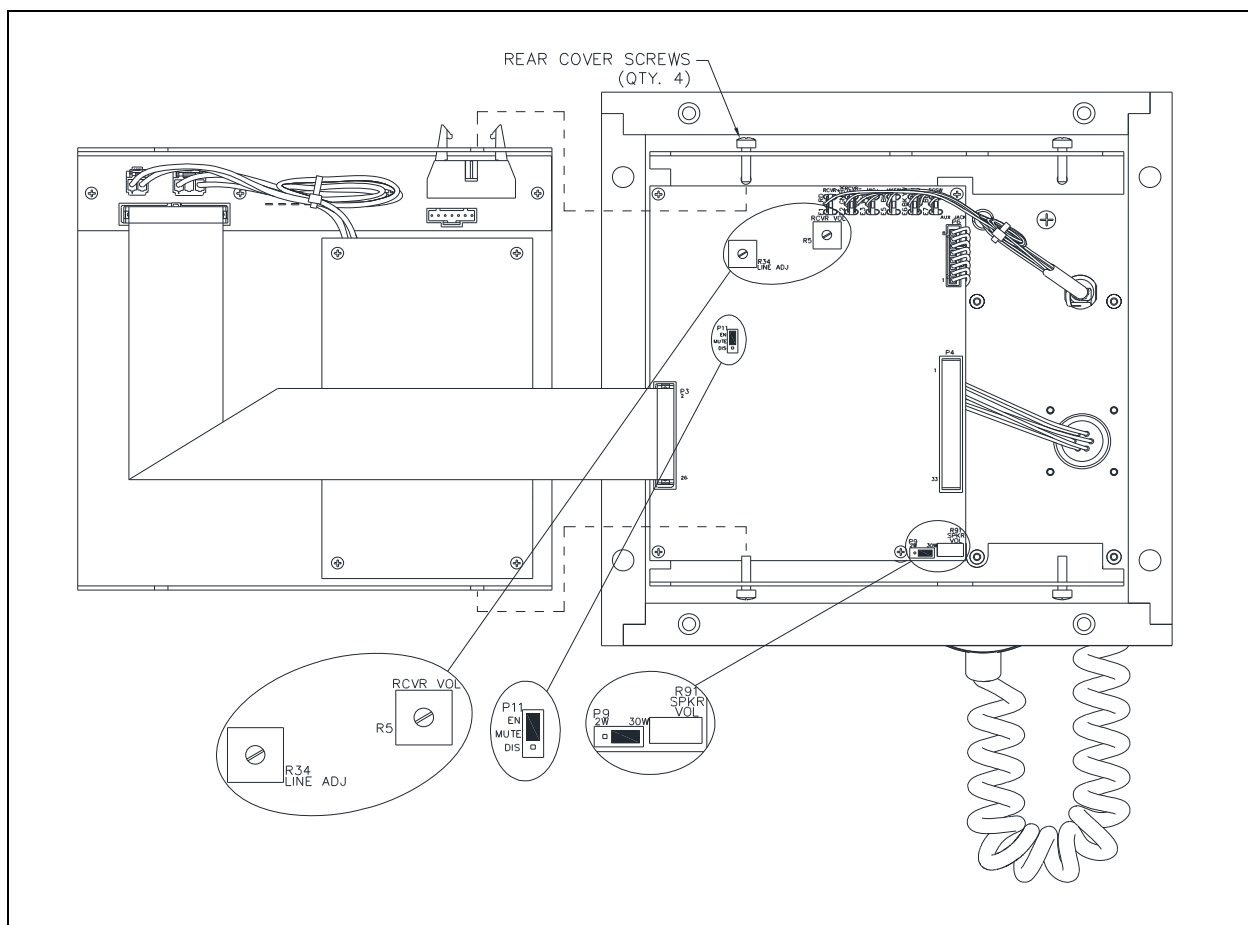

Figure 6. ICS Page/Party Amplifier—Open for Settings and Adjustments
1. Place the amplifier on a flat surface and loosen (*do not remove*) the two sets of rear cover screws, located on the top and bottom L-shaped slots (see Figure 6, Figure 10, and Figure 14)).
GAI-Tronics recommends using a No. 10440-002 Maintenance Cable (*purchased separately*) to perform the following adjustments (see Figure 6 for component locations).
Handset Levels (Models 701-302ICS & 701-304ICS Only) (see Figure 6).